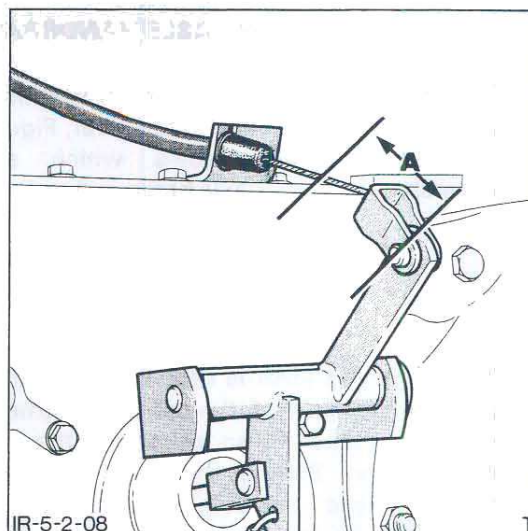

Figure 8
10. Adjust the clevis at the centre housing, Figure 8, until an effort of 50–60 lbs. (67.8–81.3 Nm) is required to pull the handbrake lever, to the full up (applied) position. The cable tension should allow the lever to engage the 'over centre position' with the brake applied.